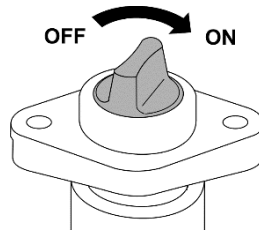

FIGURE 4.20 Main switch of control panel
- To switch on power supply of control panel, turn main switch (FIGURE 4.20) clockwise to (ON) position - switched on (the switch is installed on the control panel power lead).